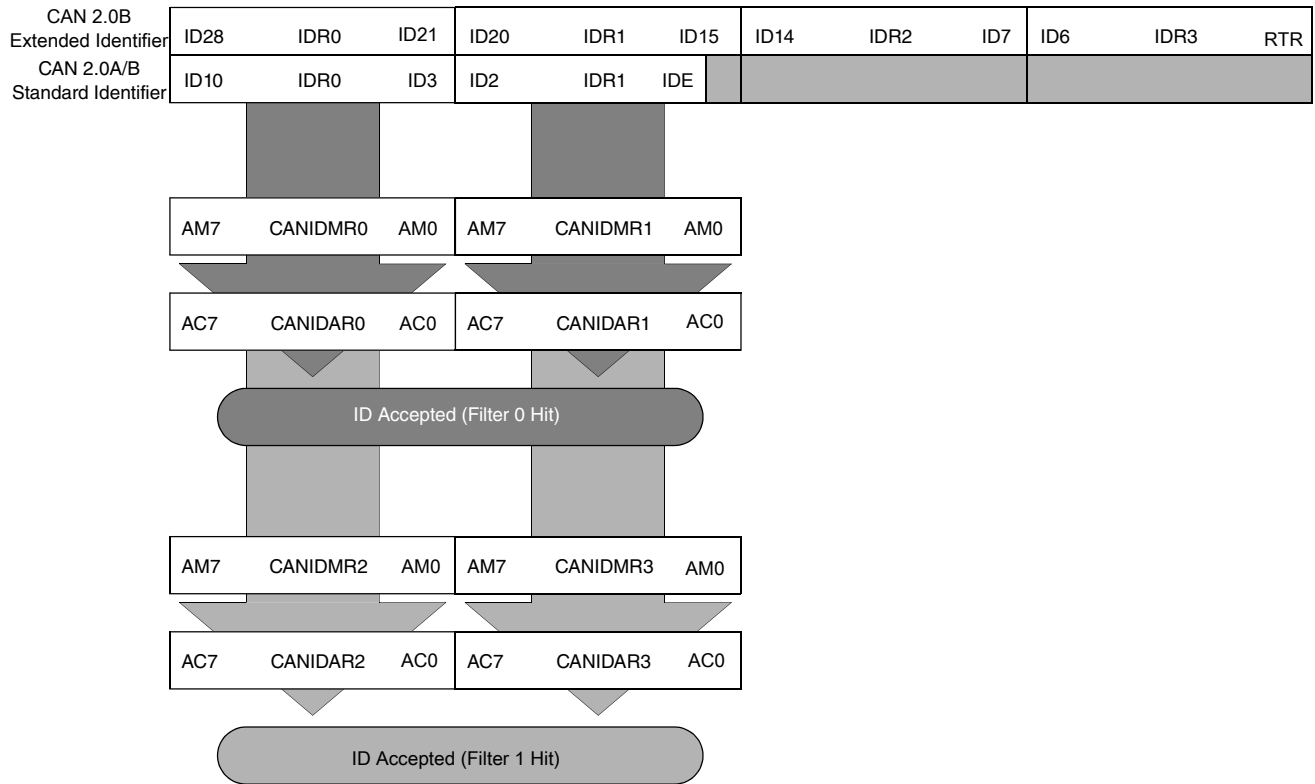

Figure 42-6. 16-bit maskable identifier acceptance filter
- The 11 bits of the standard identifier, the RTR and IDE bits of CAN 2.0A/B messages. Figure 42-6 shows how the first 32-bit filter bank (CANIDAR0-CANIDAR3, CANIDMR0-CANIDMR3) produces filter 0 and 1 hits. Similarly, the second filter bank (CANIDAR4-CANIDAR7, CANIDMR4-CANIDMR7) produces filter 2 and 3 hits.